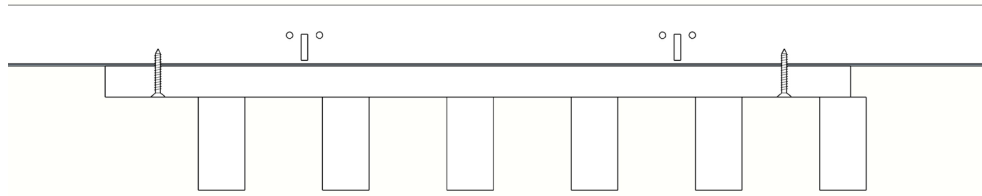

Figure 1. Direct fixing of an ELEMENT panel with screws.
For direct screw fixing, place the ELEMENT panels under the suspension system and screw them directly in using #6 double-threaded drywall screws. Use two (2) screws on each wood backer, aligning with the suspension system (**Fig. 1**).
Access to the plenum space can be achieved by simply unscrewing the panels where access is required. Refer to section 4.1.1 for instructions on attaching the panel to the suspension system using screws (**Fig. 1**).